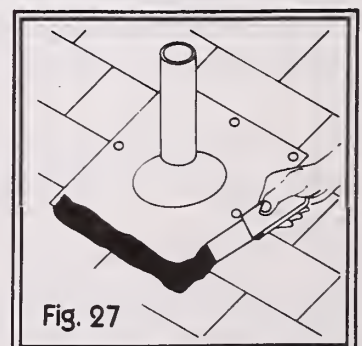

Fig. 27
3. If the leaks occur between the flat metal surface and the roofing, make certain that the surface is properly nailed in place and then apply a heavy coat of asphalt roofing cement where the two join (fig. 27).